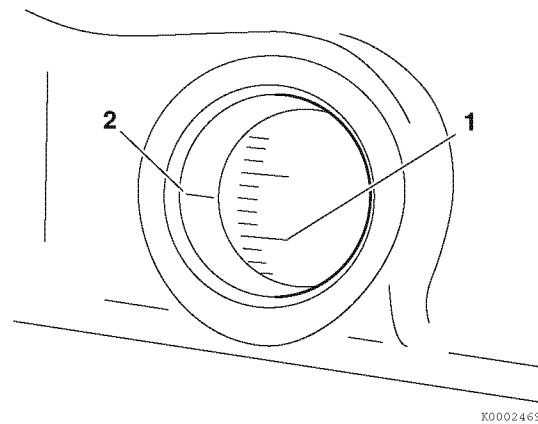

Figure 7-34
2. Determine if the timing is "advanced" or "retarded" by comparing the position of the target timing mark on the flywheel grid (**Figure 7-34, (1)**) with the timing mark on the flywheel housing or back plate (**Figure 7-34, (2)**).